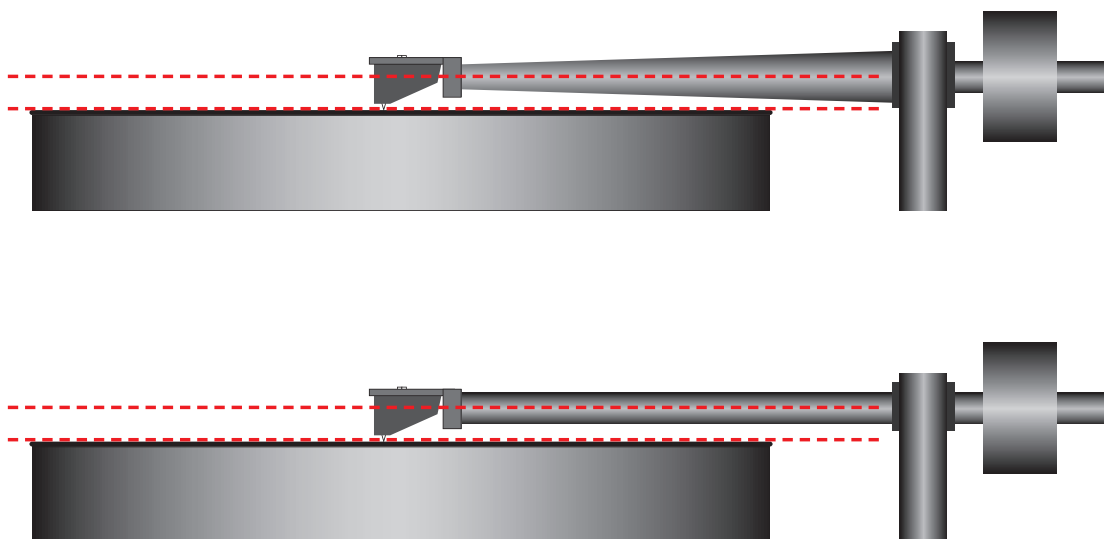

Fig. 17. Central axis parallel
5. Tonearm height– rough VTA – Fig. 17 (page 11)